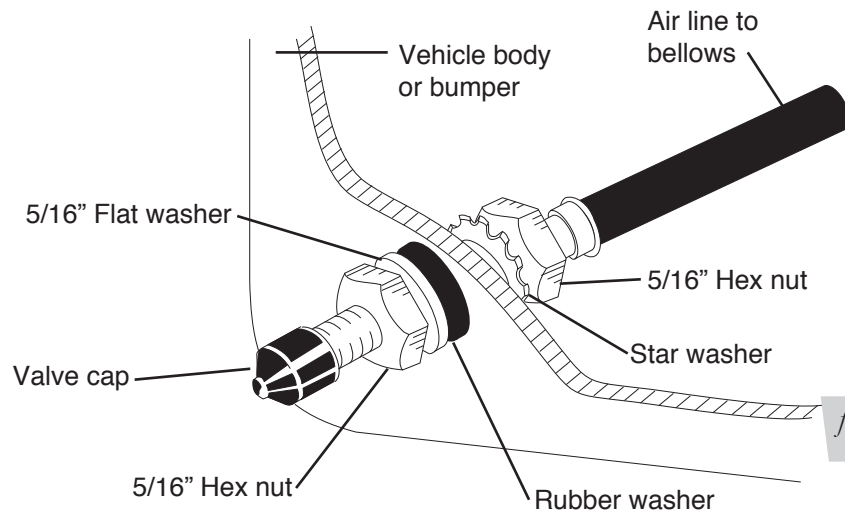

fig. 6
4. Place a 5/16" nut (GG) and a star washer (FF) on the air valve. Leave enough of the inflation valve in front of the nut to extend through the hole and have room for the rubber washer (EE), flat washer (DD), and 5/16" nut (GG) and cap (CC). There should be enough valve exposed after installation - approximately 1/2" - to easily apply a pressure gauge or an air chuck (fig. 6).
5. Push the inflation valve through the hole and use the rubber washer (EE), flat washer (DD), and another 5/16" nut (GG). Tighten the nuts to secure the assembly in place (fig. 6).